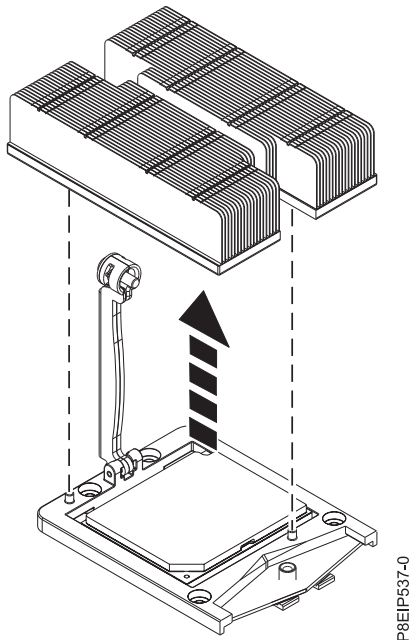

Figure 37. Removing the heat sink
4. Grip the heat sink and remove it by lifting straight up as shown in Figure 37.